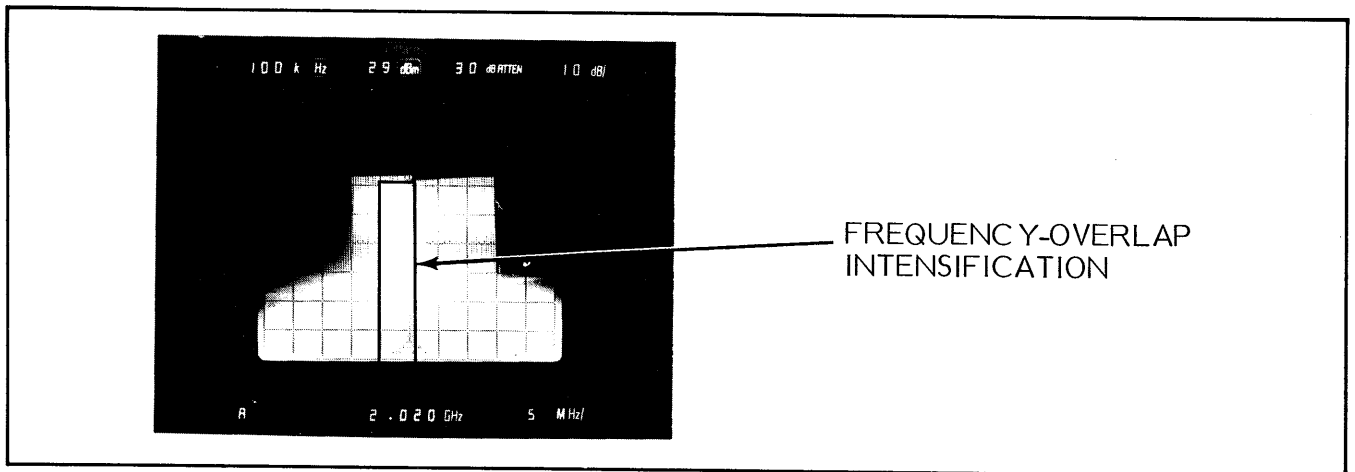

Figure 5-11. Swept-Frequency Display, Showing Frequency Overlap
- (3) position INPUT ATTEN so that the top of the swept-frequency display is visible (Figure 5-11);
- (4) adjust INTENSITY and PER-SIST so that the overlap width shows up as an intensification of the swept display (Figure 5-11).